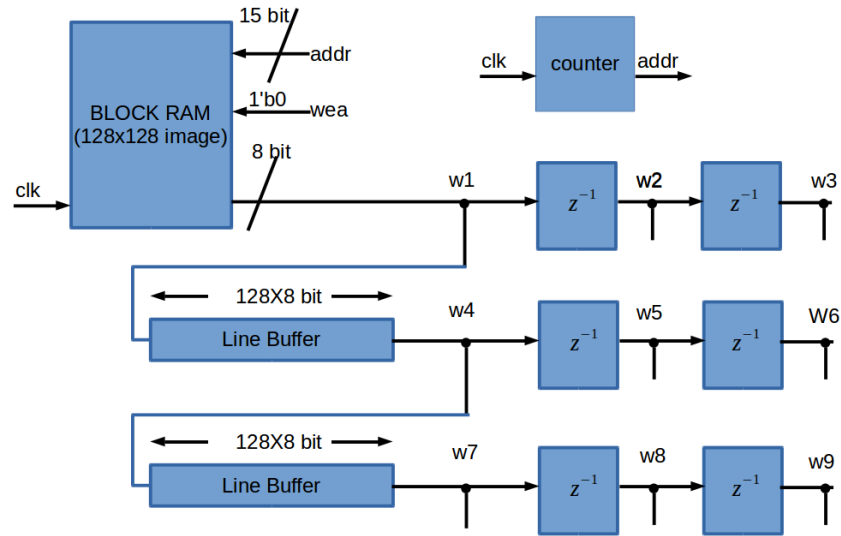

Figure 2: Line Buffer Architecture.
4. Implement the all system given in Fig. 2.